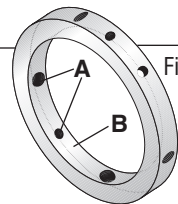

Figure 4
3.4 Drive Collar (58) (Figure 4)